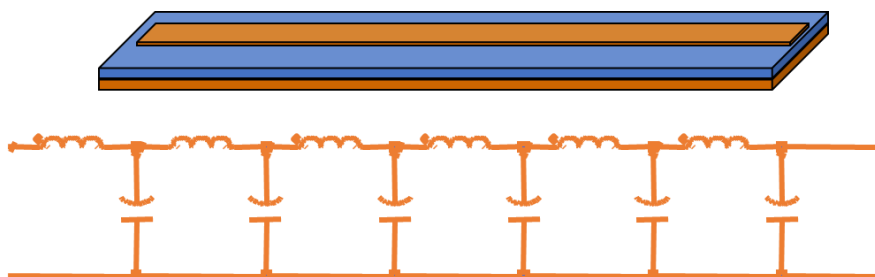

Figure 2.8 A common electrical model (bottom) for a physical transmission line (top) based on a lumped circuit LC ladder model.
When the electrical properties of a physical transmission line are described in other textbooks, they are often introduced in terms of the lumped circuit (LC) elements. This is often referred to as the *n-section lumped circuit model*. An example is shown in **Figure 2.8**.